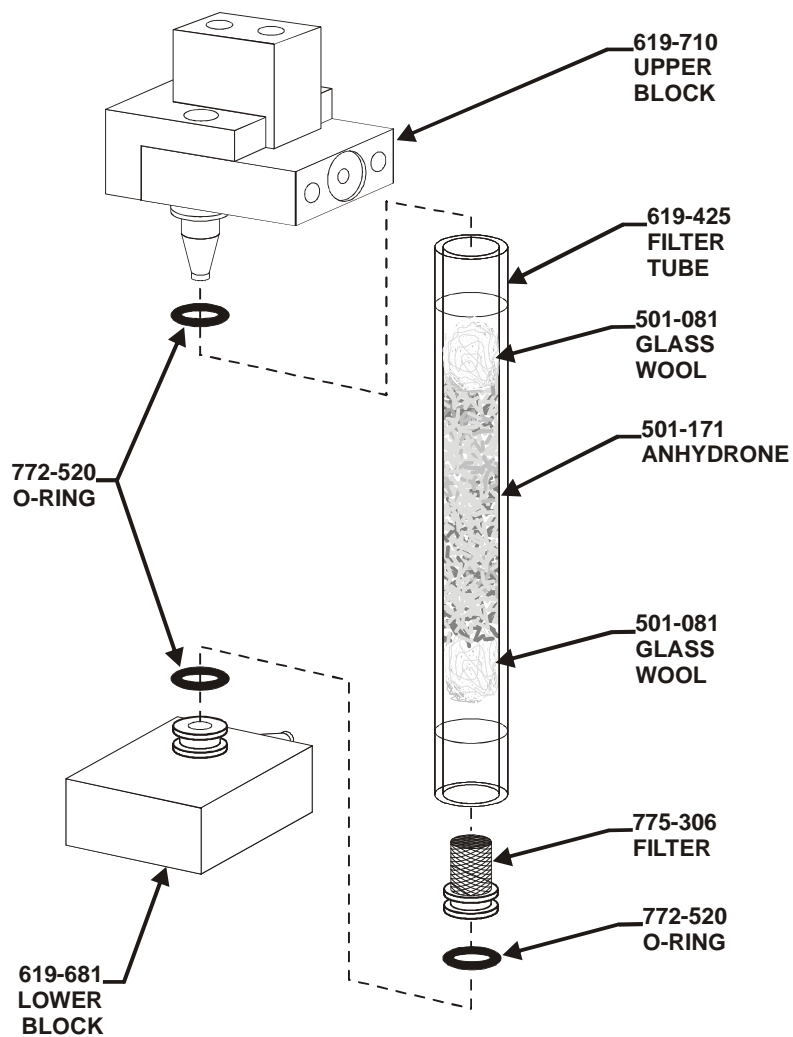

Figure 3-7
1. Insert a ½ inch wad of Quartz Wool into one end of the tube. Refer to Figure 3-7, page 3-27.